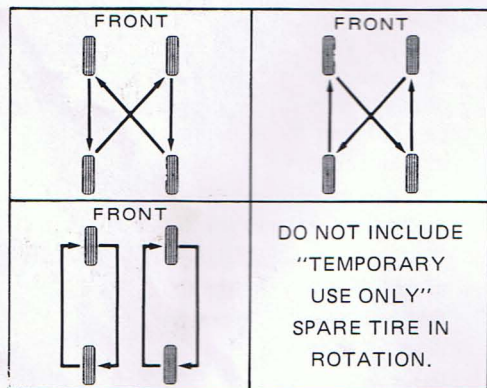

Figure 1 - Tire rotation
3. There are three patterns you can use to rotate your tires. See Figure 1.